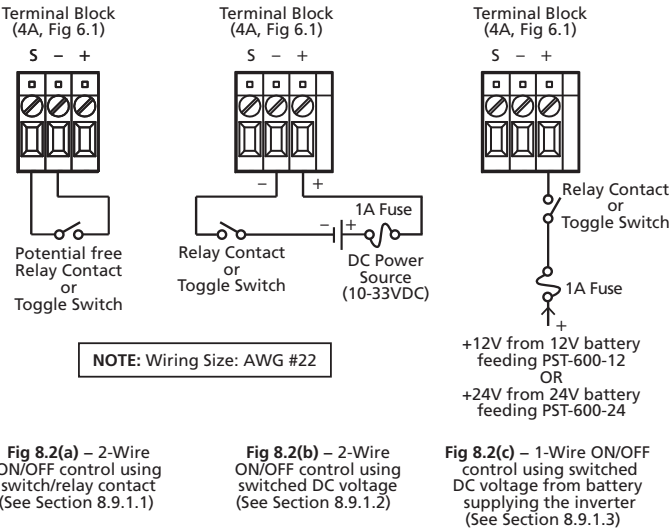

Fig. 8.2: ON/OFF Control from Remote Location using External 2-Wire or 1-Wire Control
The unit can be switched ON/OFF from a remote location using external, wired ON/OFF control options as shown in Fig 8.2(a), (b) and (c) and associated details at Sections 8.9.1.1 to 8.9.1.3.
8.9.1.1 2-Wire ON/OFF Control from Remote Location Using Switch/Relay Contact, Fig 8.2(a):
8.9.1.2 2-Wire ON/OFF Control Using Switched DC Voltage (10-33VDC), Fig 8.2(b):
8.9.1.3 1-Wire ON/OFF Control Using Switched DC Voltage from the Battery Supplying the Inverter, Fig 8.2(c) :